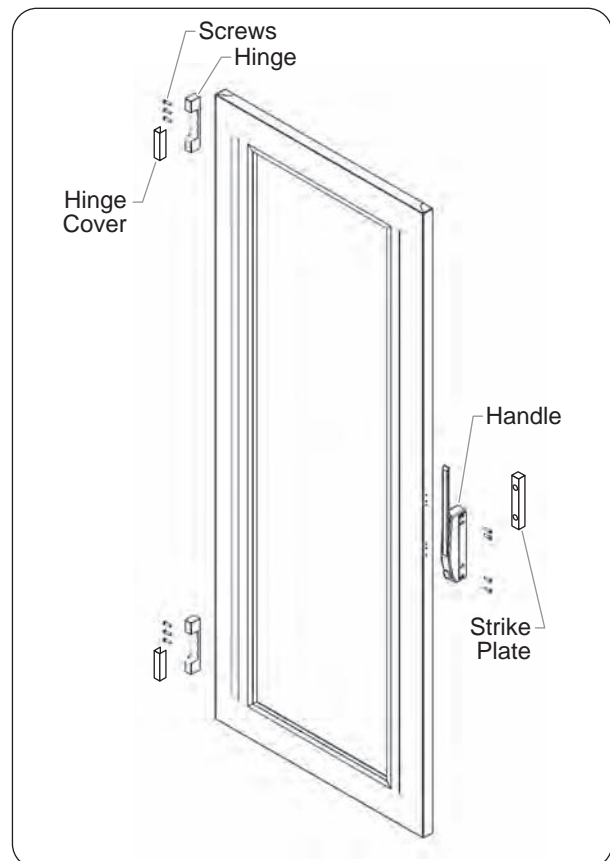

Figure 7. Reversible Access Door
2. Remove the screws securing the door to the hinges (see Figure 7.)